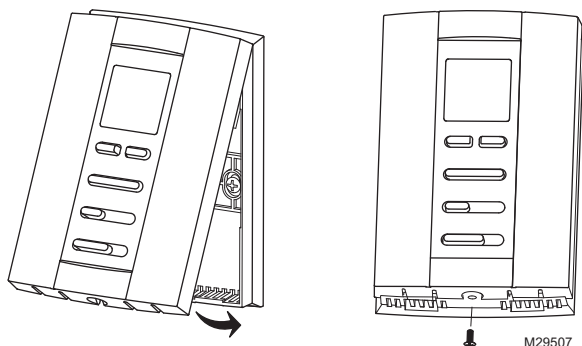

Fig. 4. Installing thermostat.
4. Align the top of the thermostat with the back cover and push down on the back cover. See Fig. 4, left.
5. Insert the locking screw into the hole on the bottom of the thermostat and tighten. See Fig. 4, right.